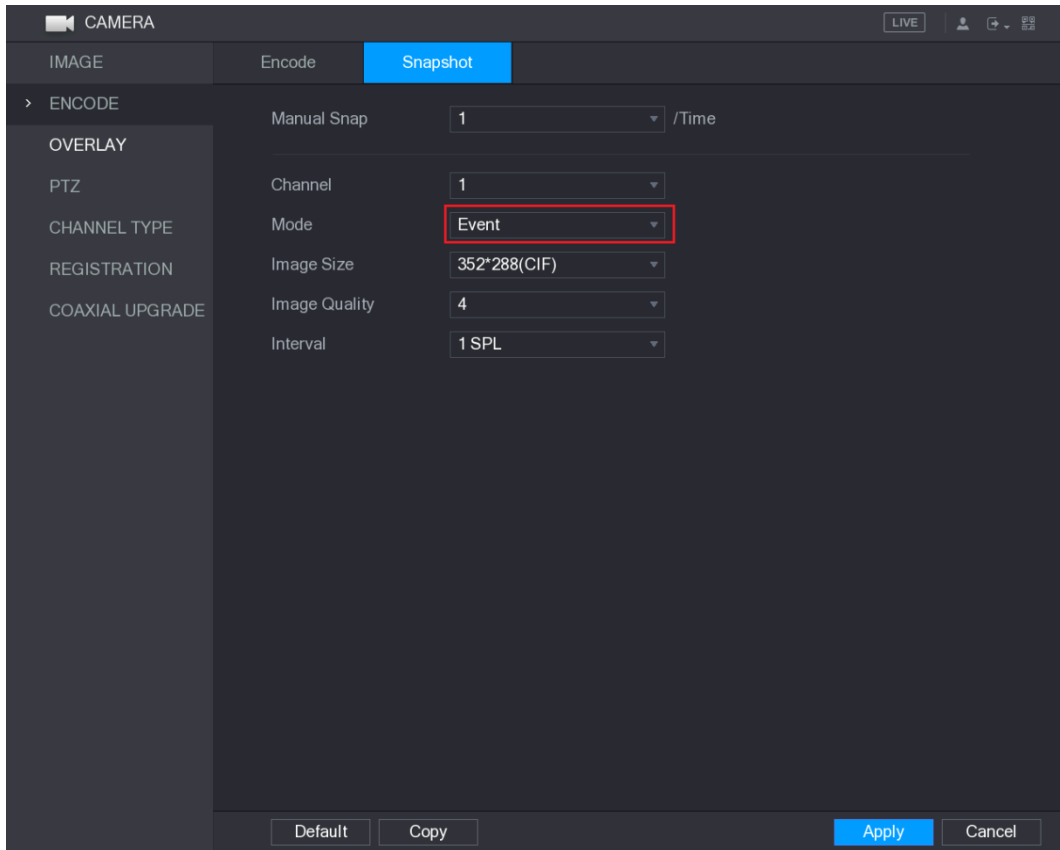

Figure 5-93
**Step 2** In the **Mode** list, select **Event**, and then configure other parameters. See Figure 5-93.